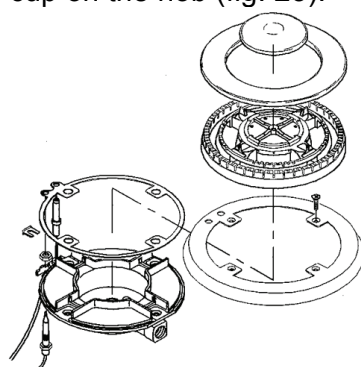

Fig.22
*Treble crown burner:* fit the flame diffuser to the burner support so that it cannot rotate (fig. 22).